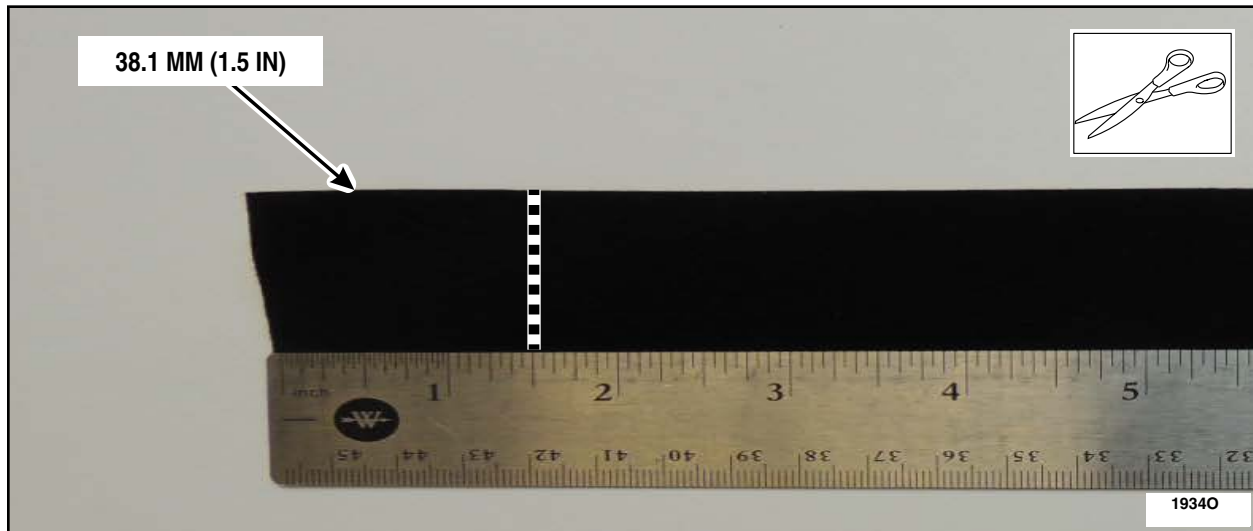

FIGURE 6
8. Measure and cut one piece of flocked tape 38.1 mm (1.5 in) in length. See Figure 6.